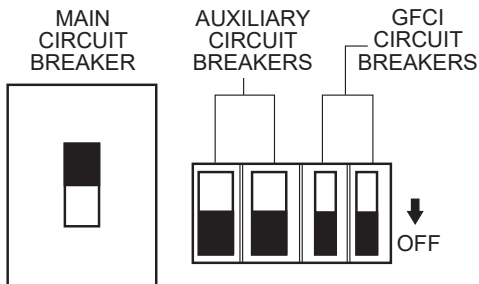

Figure 58. Main, Auxiliary, And GFCI Circuit Breakers (OFF Position)
2. Place the **main, auxiliary, and GFCI circuit breakers** in the **OFF** position (Figure 58).
2. Place the **main, auxiliary, and GFCI circuit breakers** in the **OFF** position as shown in Figure 58.